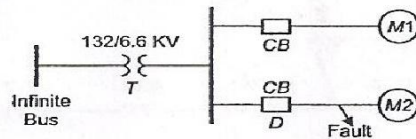

Fig. 8.17: Power system network of Example 8.16.
**Example 8.16:** A 12 MVA, 132/6.6 KV, transformer having a reactance of 0.15 pu is fed from an infinite bus. The transformer feeds two motor each 6 MVA, 6.6 KV. Each motors has a transient reactance of 0.14 pu and a subtransient reactance of 0.30 pu based on its own rating. A three phase balanced fault occurs at the terminals of one motor as shown in Fig. 8.17. Find (a) subtransient fault current (b) subtransient current in breaker (c) momentary current rating of breaker D which has a breaking time of 5 cycles.